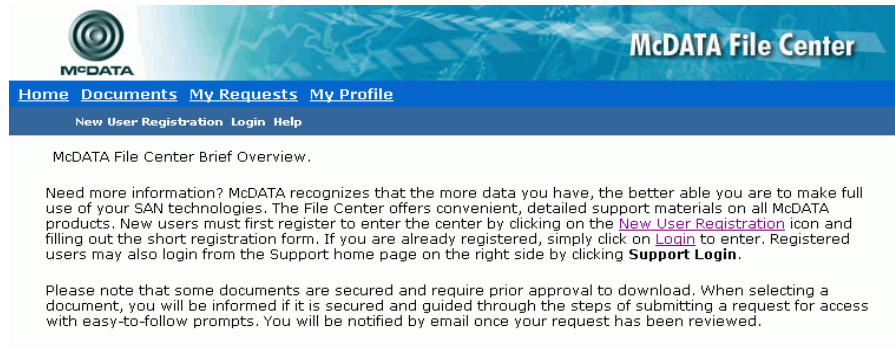

Figure 4-54 McDATA File Center Home Page
- a. At a PC with Internet access, open the File Center home page (Figure 4-54 on page 4-70). The URL is <http://central.mcdata.com>.